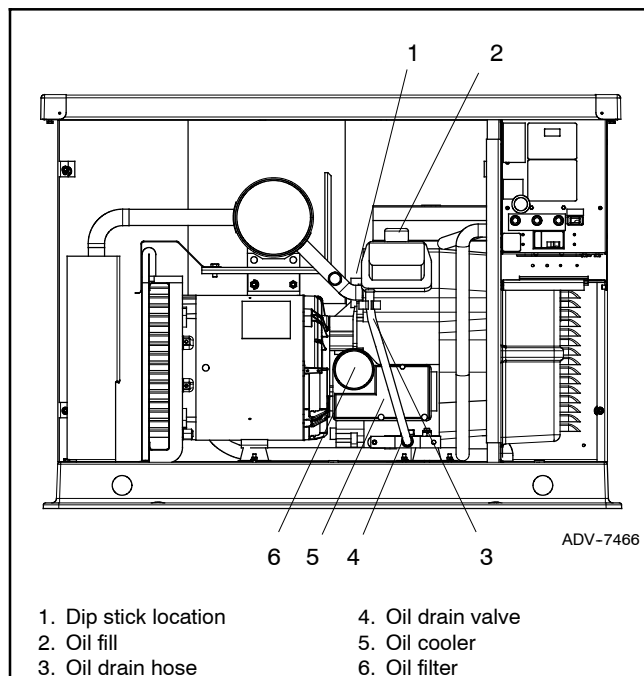

Figure 2-2 Lubrication System (typical)
See Section 2.1, Service Schedule, for oil change and oil filter replacement intervals. See Figure 2-2 for the oil drain, oil check, oil fill, and oil filter locations.
Check the oil level regularly and add oil as needed to protect against running out of oil. See Figure 2-2 for the dipstick and oil fill locations. Do not check the oil level when the generator set is running. Shut down the generator set and wait several minutes before checking the oil level.
- d. Remove the oil drain hose from its retaining clip. See Figure 2-2. Remove the cap from the oil drain hose and lower the hose into an oil collection container.
See Figure 2-2 and Figure 2-5 for the oil cooler location. Clean the outside of the oil cooler with a brush or compressed air. If it is necessary to clean the back of the oil cooler, remove the two screws holding the oil cooler unit to the blower housing. Tilt the cooler and clean with a brush or compressed air as shown in Figure 2-6. After cleaning, reinstall the oil cooler and secure with the mounting screws.